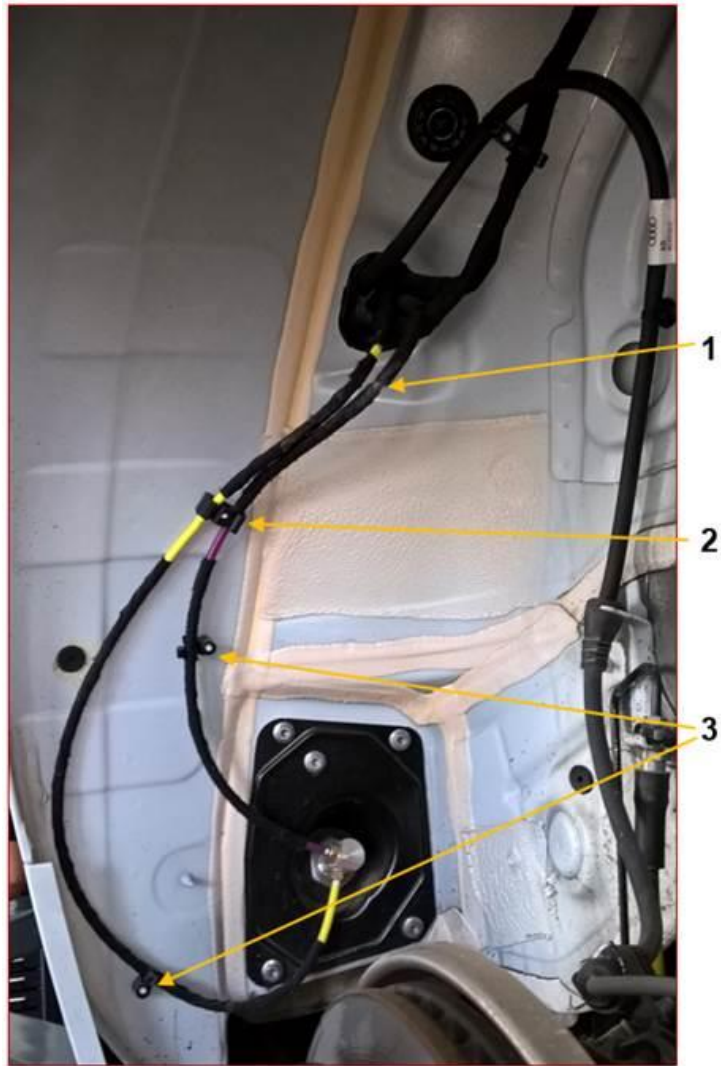

Figure 2. Area to be reworked.
1. Check purple and yellow air hoses for damage (proceed with the repair, use only the repair kit set as described in ETKA) (Figure 2).
2. Unclip both air hoses (Figure 2).
3. Loosen both cable ties (Figure 2).